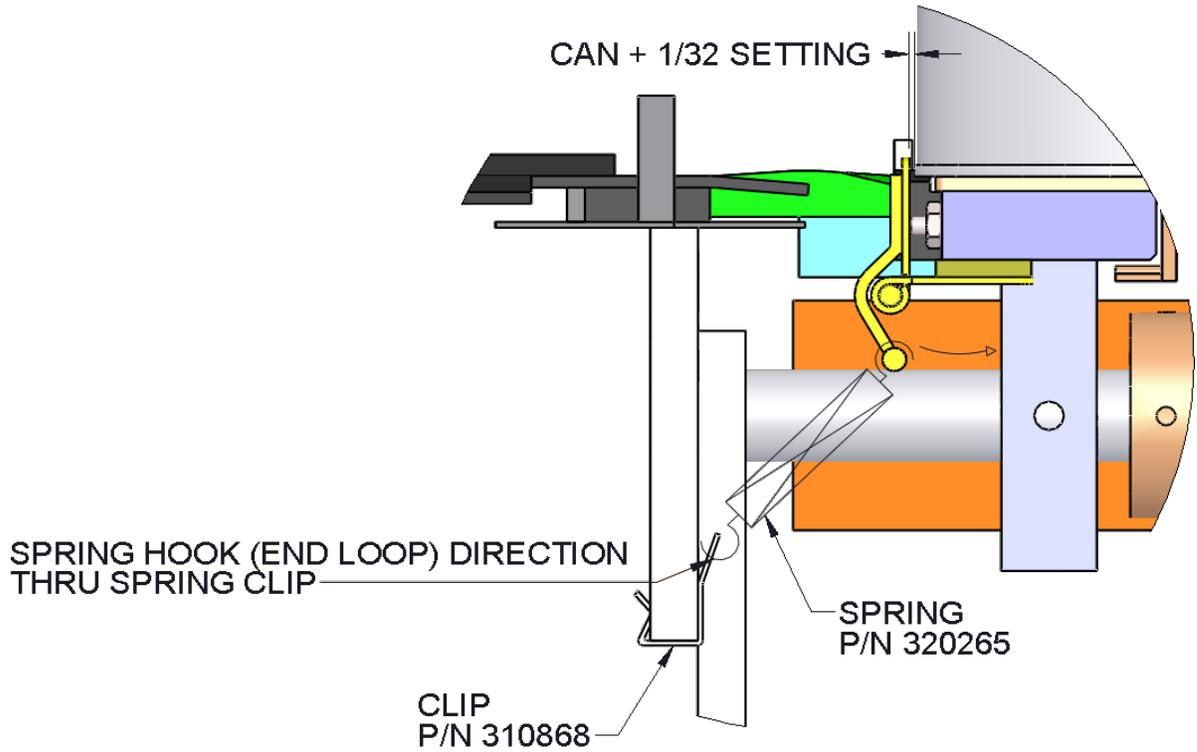

FIGURE 4
2. Position the can guide hinge so the vertical plate is as straight up and down as possible, at "Can + 1/32" from the outer can guide rail. This is when the hinge is relaxed against the adjuster set screw (See Figure 4).
5. The spring's end-loop or hook, should enter the spring clip hole in the direction that causes the spring to move deeper onto the clip, as the hinge is actuated down by the can loading. This will help prevent the end-loops from fatiguing open further (See Figure 4).